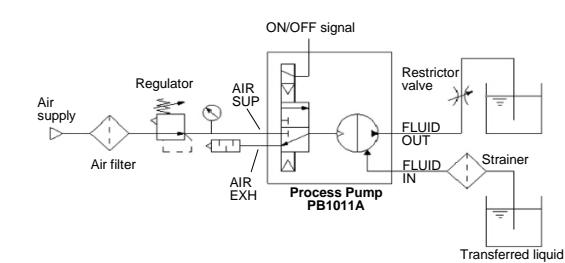

Fig 3. Circuit Example
- Connect air piping to air supply port "AIR SUP", and fluid transfer piping to suction port "FLUID IN" and discharge port "FLUID OUT". See Fig. 3.
- The flow rate from the discharge port <FLUID OUT> can be adjusted easily by changing the switching cycle of the solenoid valve on the air supply port. See figure 3.